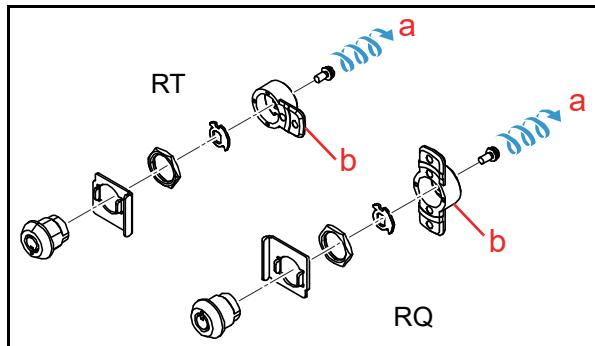

**Figure 4-19** Cylinder Lock Removal
1. Pull and remove the Cylinder Lock (Figure 4-19 **a**).